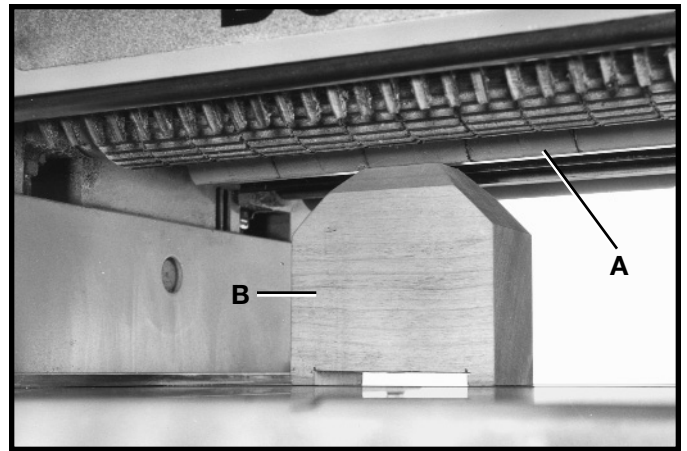

Fig. 39
4. Move gage block (B) Fig. 39, directly under chipbreakers (A) as shown. The bottom of chipbreakers (A) Fig. 39, should just touch gage block (B).